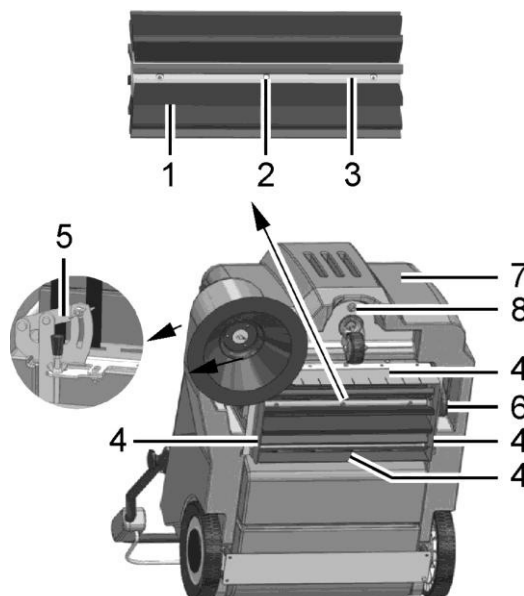

Fig. 10
The brush space with rotary brush (Fig. 10/1) and gaskets (Fig. 10/4) must be checked daily for signs of dirt and cleaned, if necessary.
The rotary brush (Fig. 10/1) must be checked weekly and changed in the case of wear.
2. Loosen the six screws (Fig. 10/2) in the rotary brush and remove the two roller segments.
In the case of brush wear, and after changing the rotary brush (Fig. 10/1), readjust the sweeping pattern.
1. Switch the machine off, unscrew the locking bolt (Fig. 10/8) and open the hood (Fig. 10/7).
2. Loosen the wing nut on the adjusting lever (Fig. 10/5) and adjust the sweeping pattern using the adjusting lever by pivoting it up and down until it touches the floor.
8. Close the hood (Fig. 10/7) and screw the locking bolt (Fig. 10/8) back in
The four sealing strips (Fig. 10/4) must be checked weekly and changed in the case of wear.
2. Remove all four sealing strips (Fig.10/2) with holders.
The timing belt (Fig. 10/6) must be checked every 500 operating hours and changed in the event of wear.
2. Slacken the timing belt (Fig. 10/6) using the tension pulley and remove the belt.
4. Close the hood (Fig. 10/7) and screw the locking bolts (Fig. 10/8) back in.